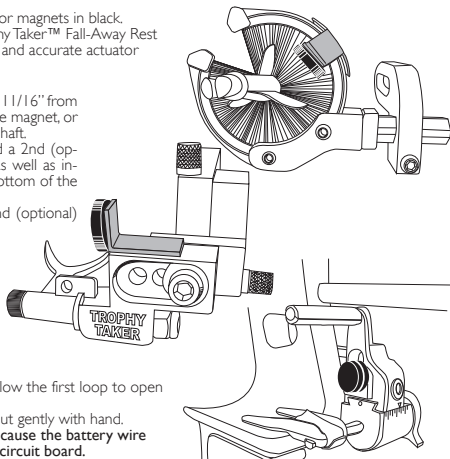

Figure 5
- Squeeze the nock cylinder by hand as figure 5 to release the circuit board anchors.